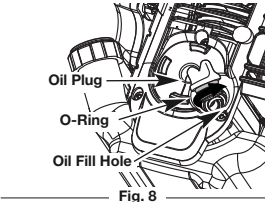

Fig. 8
NOTE: Make sure the O-ring is in place on the oil fill plug when checking and changing the oil (Fig. 8).
2. Remove the oil fill plug (Fig. 8).